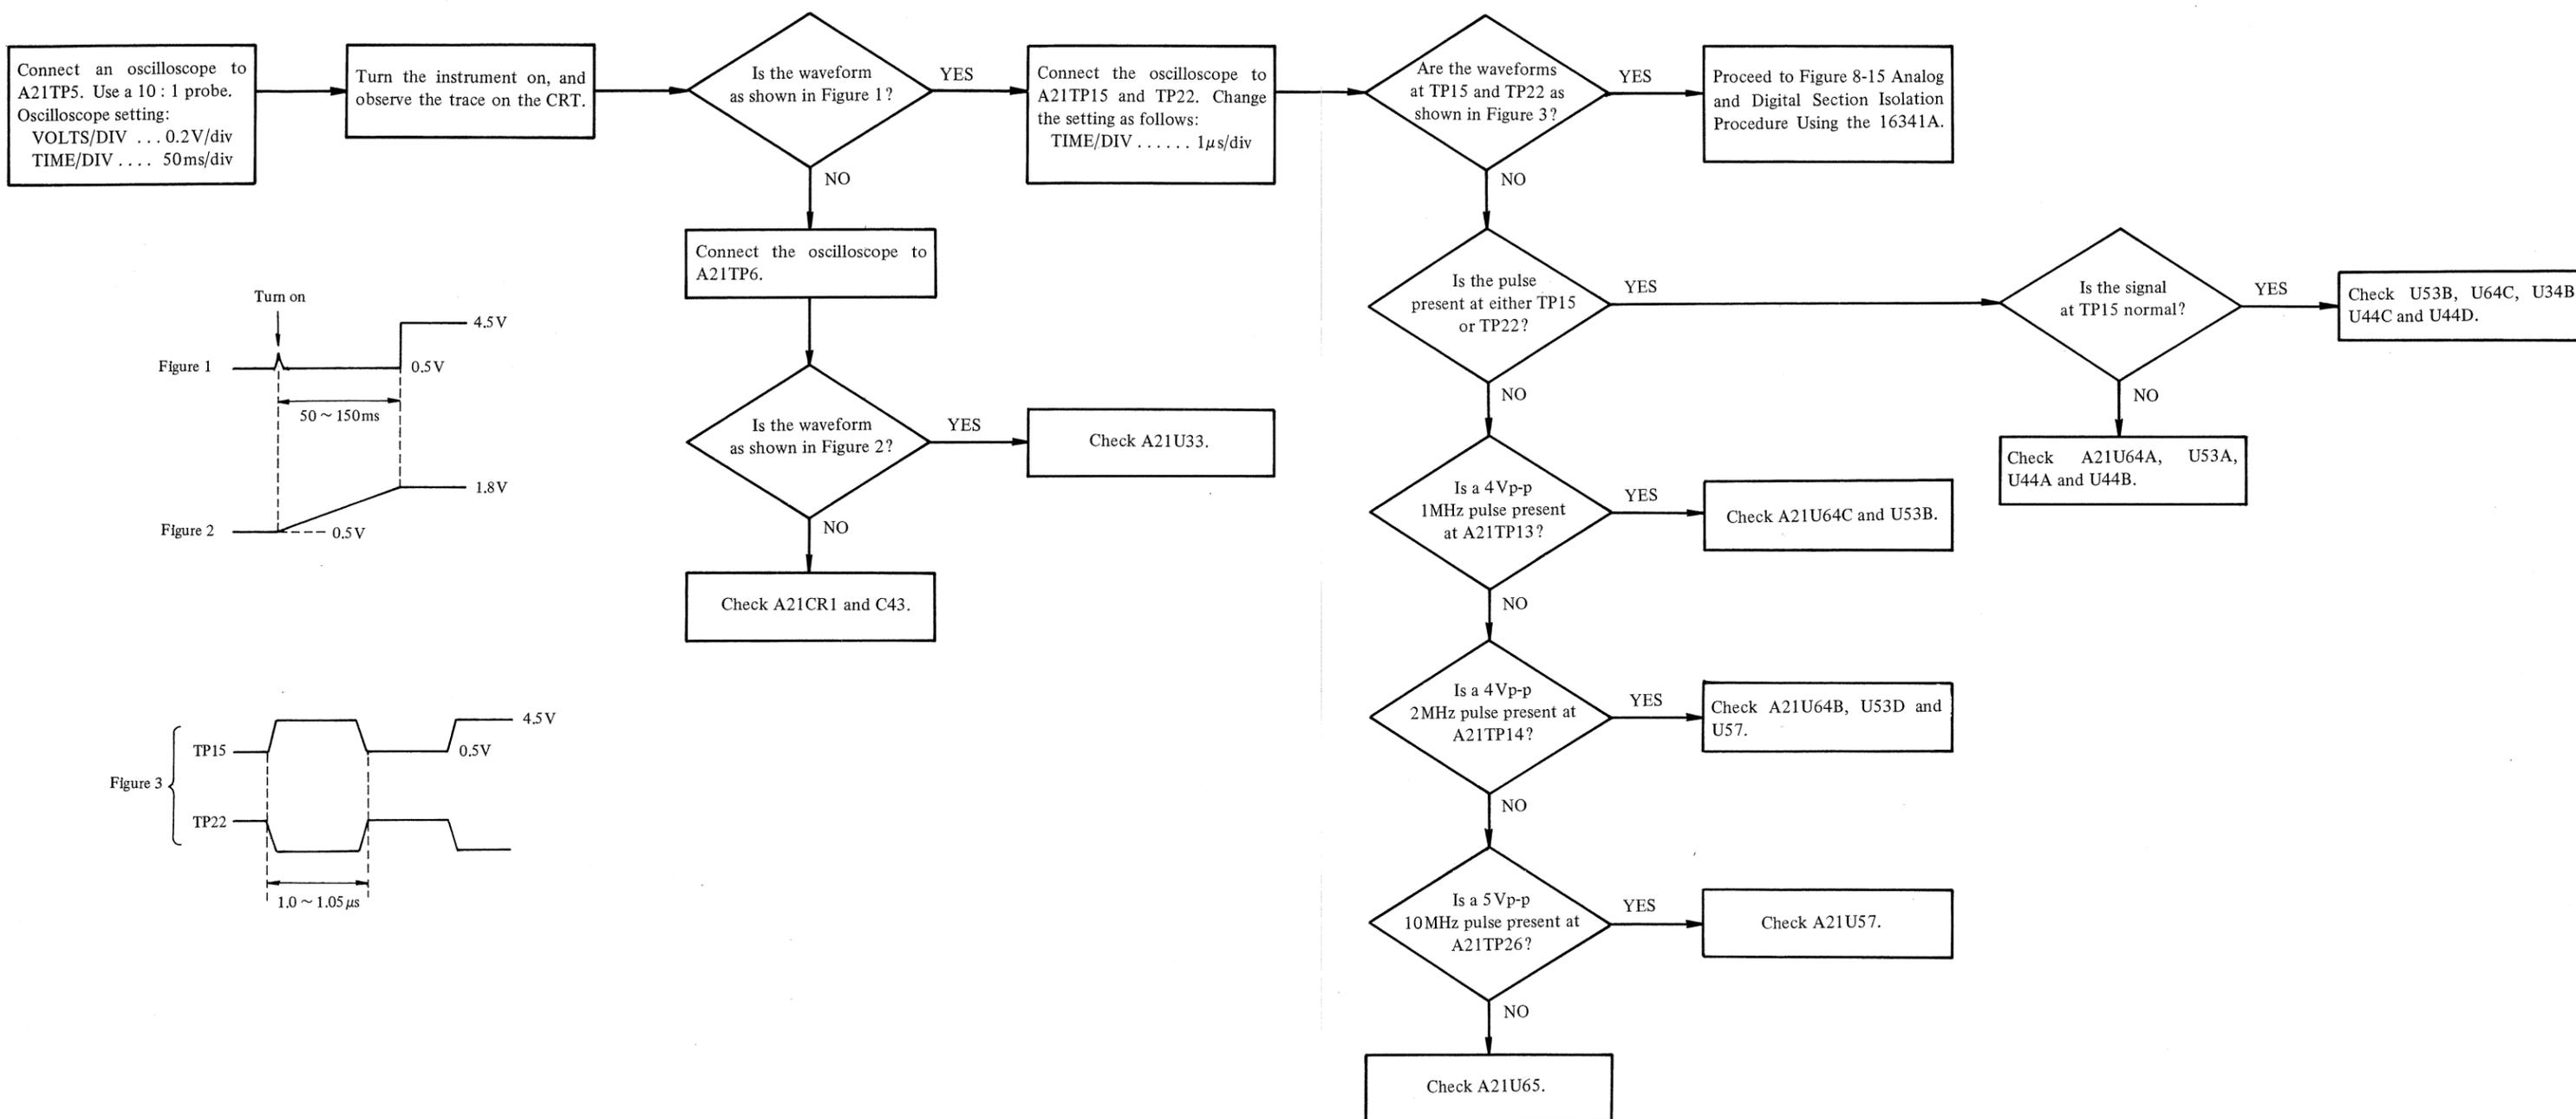

Figure 8-14. Turn-on Reset and Clock Generator Troubleshooting Flow Diagram.
- 1) First, verify the symptom on the instrument. If the displays or control settings in the initial operating sequence does not occur just after the instrument is turned on, measure dc power supply voltages and, if an abnormality is found, troubleshoot the power supply section. If all the power supply voltages are normal, troubleshoot the turn-on reset and clock generator circuits in the digital control section using Figure 8-14. If an error message display occurs, refer to Table 8-5 for the meaning of the message.